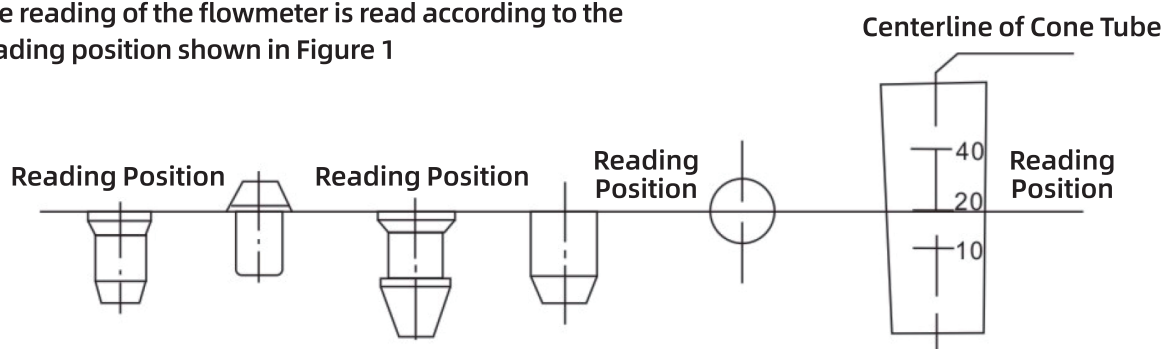

Figure 1 Diagram of various float reading positions
The reading of the flowmeter is read according to the reading position shown in Figure 1
3. Read the float reading as shown in Figure 1.